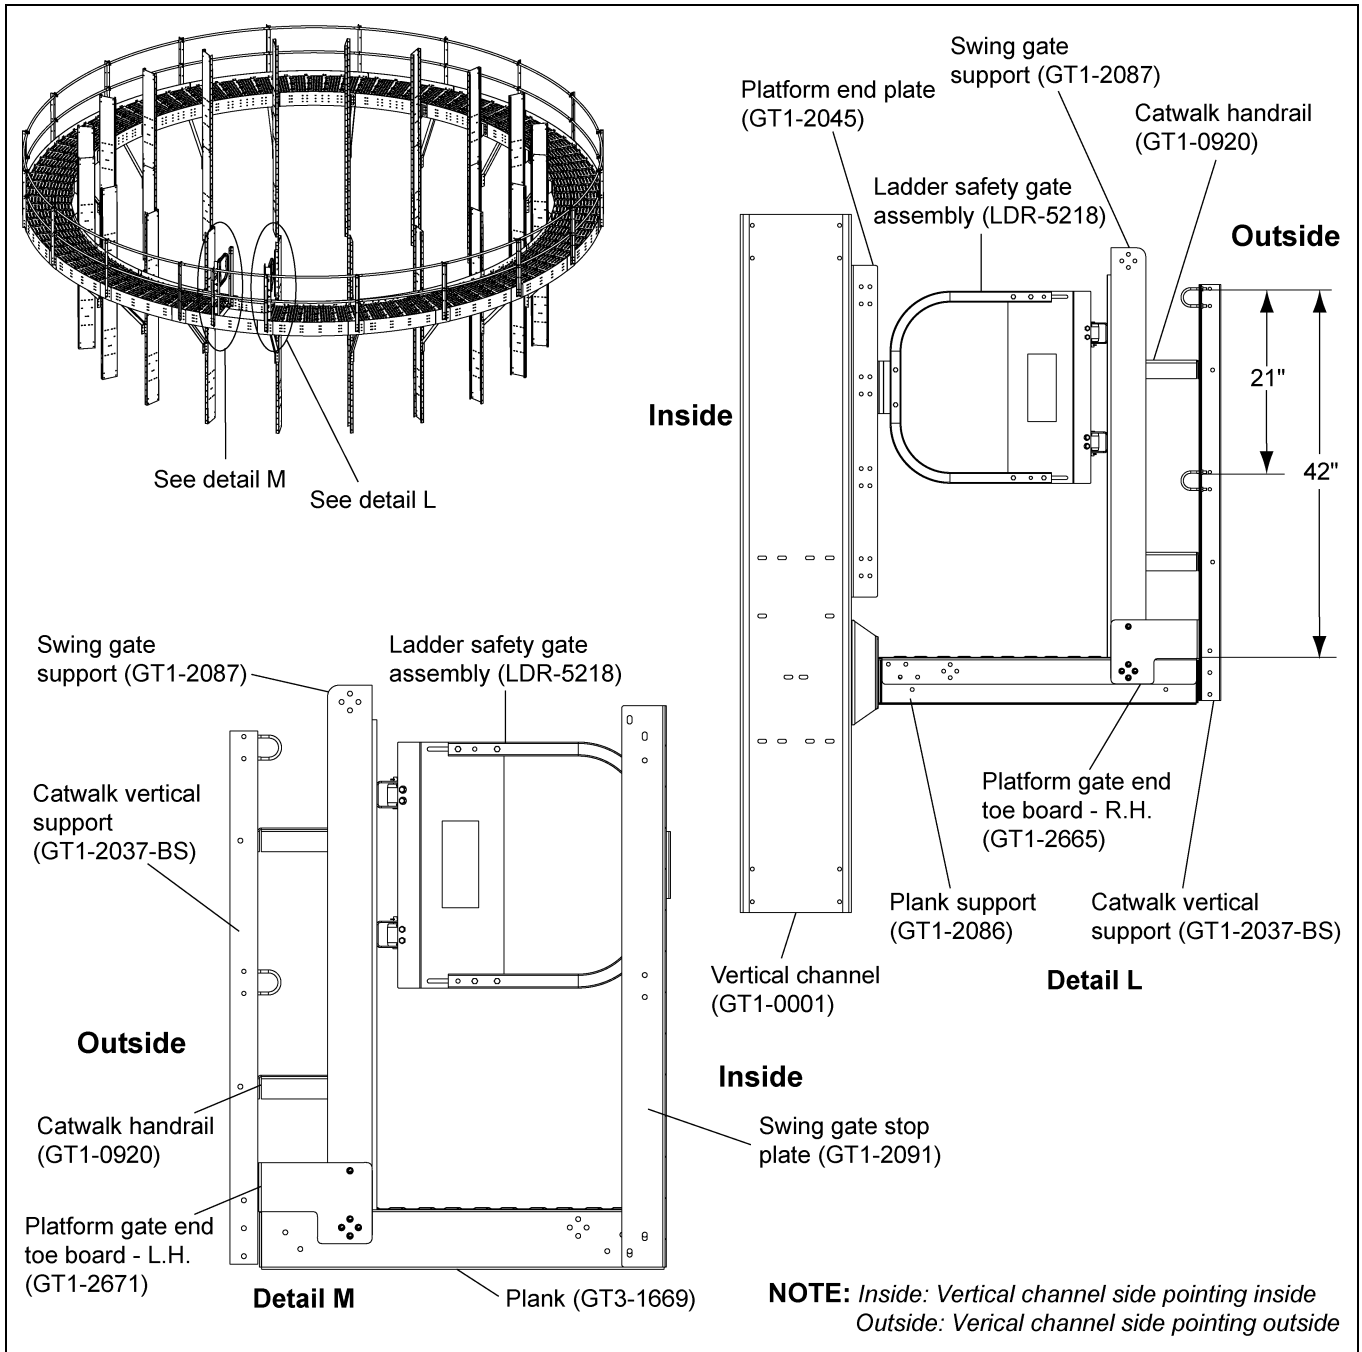

Figure 4Y
1. Install the ladder safety gate assembly (LDR-5218) to the swing gate support (GT1-2087) using 3/8"-16 x 1" JS grade 8 or grade 8.2 bolts (S-7485) and 3/8"-16 ZN grade 5 nuts (S-968). (See detail L in *Figure 4Y*.)
2. Install the ladder safety gate (LDR-5218) to the swing gate support (GT1-2087) and attach the stop plate (GT1-2091) to the ladder opening toe board (GT1-2089) and the plank (GT3-1669) using 3/8"-16 x 1" JS grade 8 or grade 8.2 bolts (S-7485) and 3/8"-16 ZN grade 5 nuts (S-968). (See detail M in *Figure 4Y*.) The distance between the plank and handrail is 42".